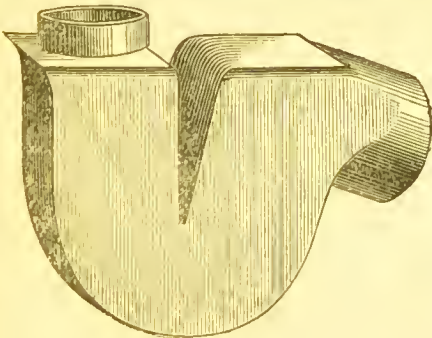
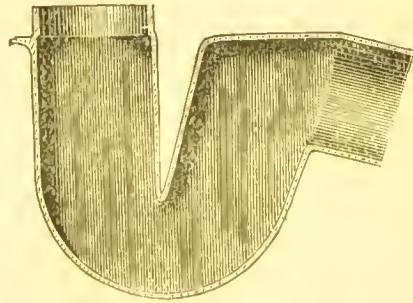

FIG. 10.
FIG. 11. SECTION.
*"Mansion" Water-closet Trap or "V-Dip"* Trap.—This trap, Fig. 10 (also see Section, Fig. 11),